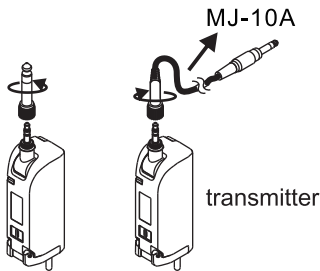

Fig. 38-1 Fig. 38-2
(A) Remove the 6.3 Ø input phone plug adapter from MT-24, Fig. 38-1.